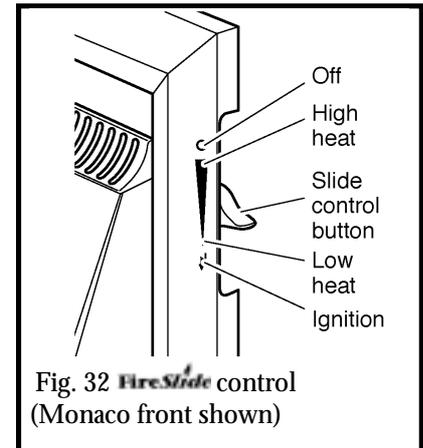

Fig. 32 FireSlide control (Monaco front shown)
The control position markings on the front surround are shown in figure 32. When first turned on from cold, the flames will appear predominantly blue. Please note that, when operating the fire for the first time, some vapours may be given off which could set off smoke alarms in the vicinity. These vapours are quite normal with new appliances. They are totally harmless and will disappear after a few hours use.
11.1.5 Gradually slide the button up to increase the burner setting. The burner should be at its maximum setting at the high heat position shown in figure 32. You should feel a check to the button movement at this position.